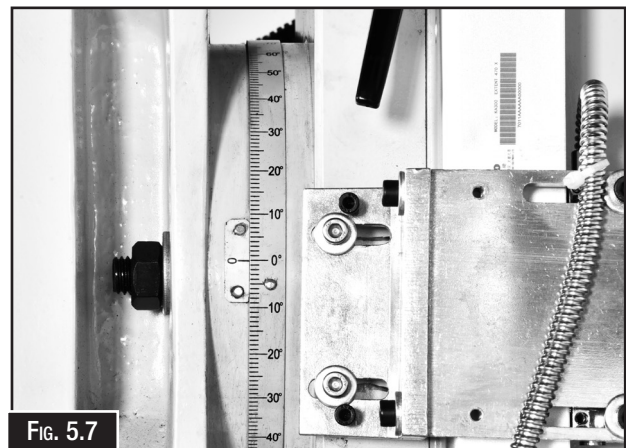

FIG. 5.7
3. Using the head angle scale shown (Fig.5.7) as a guide, or for a more accurate reading use the angle block digital gauge as shown (Fig.5. 8)